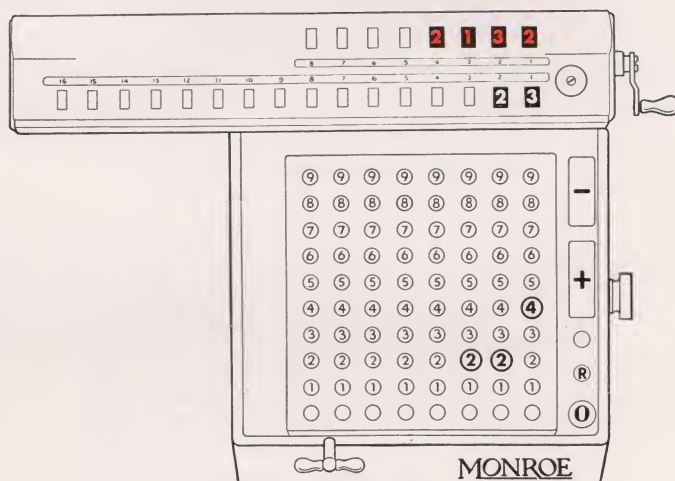

Figure 7
Step 5—Continue this operation, shifting the carriage and depressing minus and plus bars. At the completion of the problem the quotient, **2132**, will appear in the upper dials and the remainder, 23, will appear in the lower dials. The machine at this point appears as shown in Figure 7.